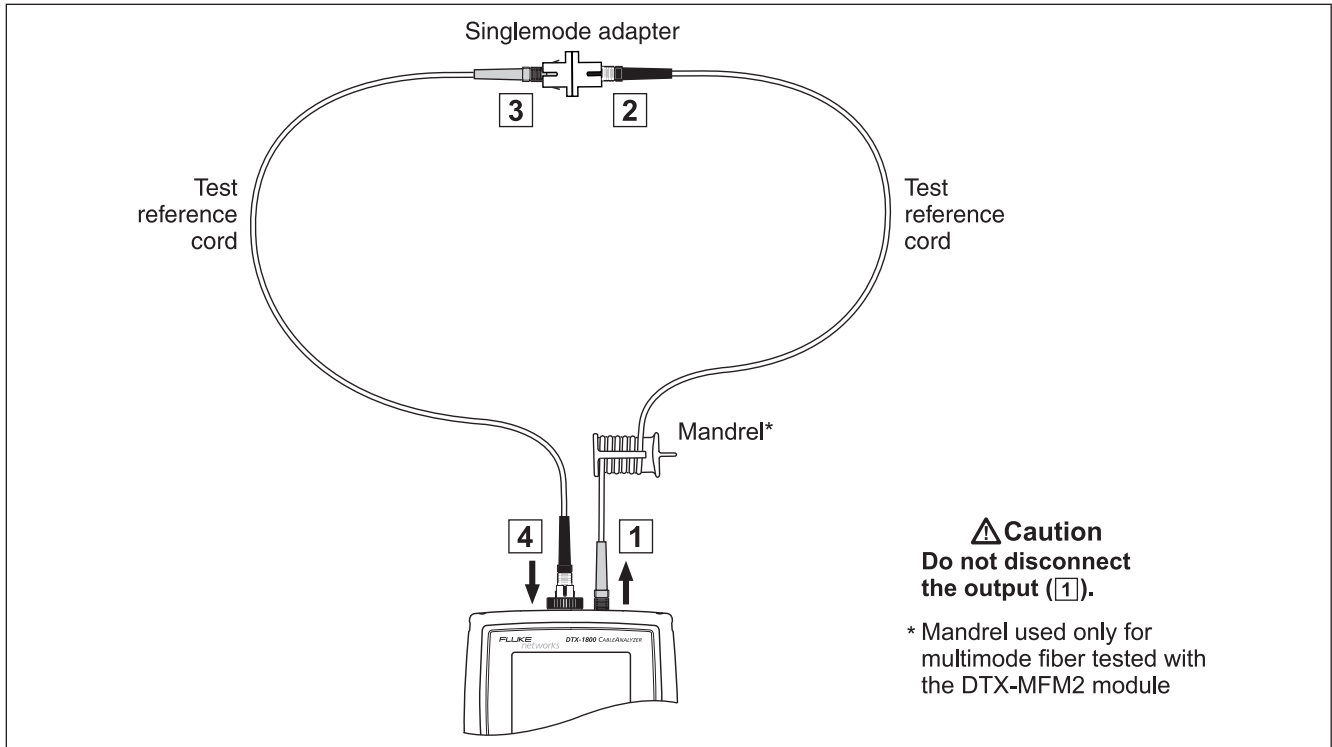

Figure 8-15. Testing the Test Reference Cords in Loopback Mode
- 13 Make the connections shown in Figure 8-15.